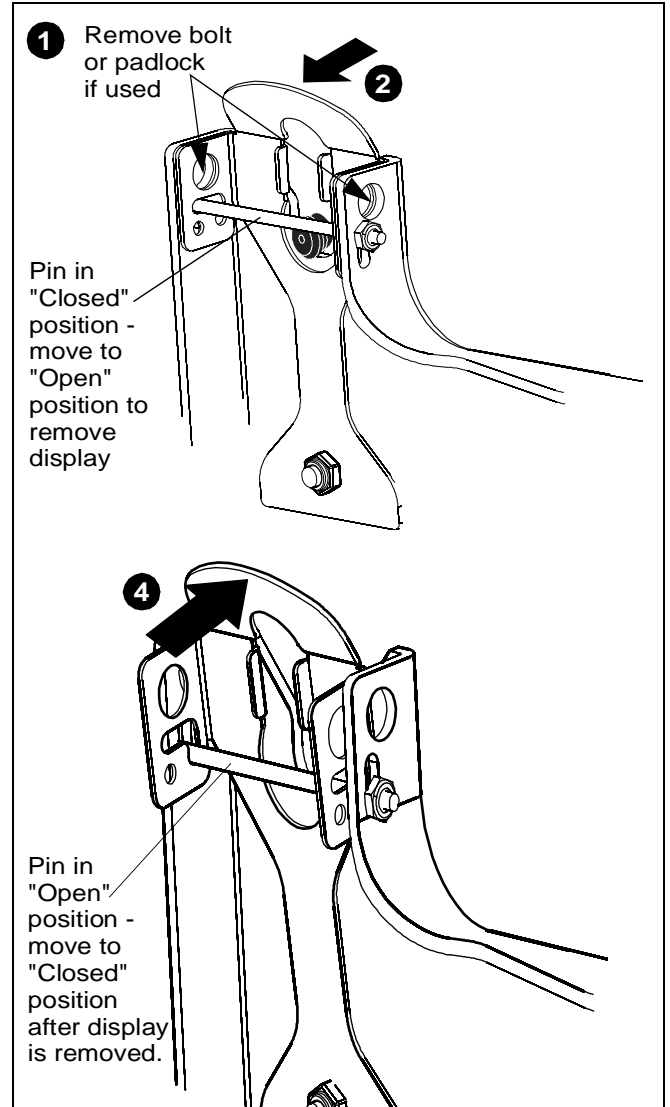

Figure 8
1. Remove bolt or padlock from faceplate (if used). (See Figure 8)
2. Pull back on flag on upper mounting hole and press pin down into "Open" position. (See Figure 8)
4. Lift up on pin and place flag back against faceplate to return it to "Closed" position. (See Figure 8)